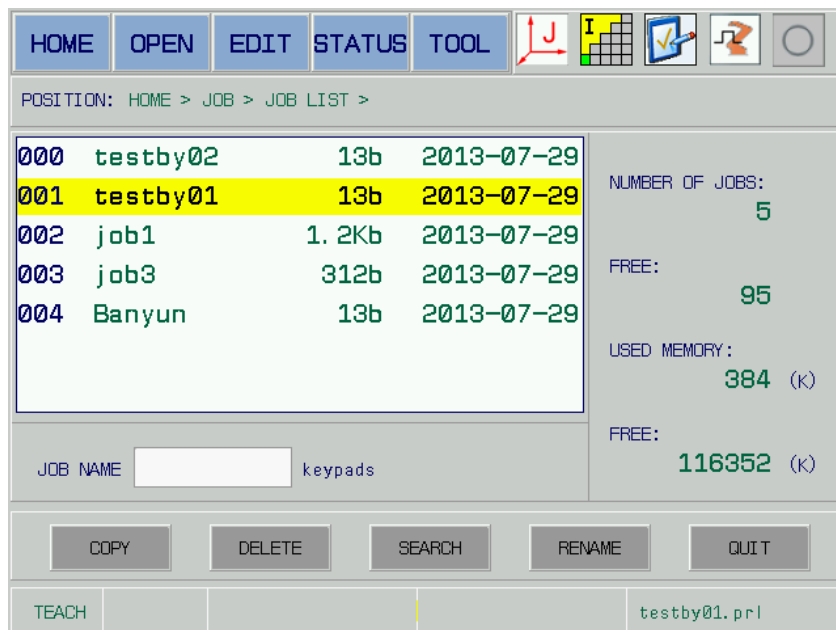

Fig. 5-11
2. Move the cursor to the program to be deleted by up/down direction button, for example, delete the “testby01.prl” program; refer to the Fig. 5-11.